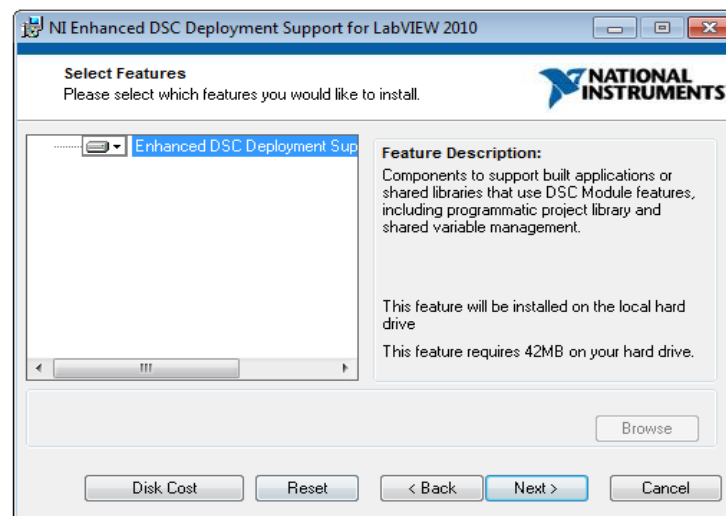

Figure 1-16 Select Features
3. A window as shown in Fig.1-16 will appear. Select the features that are to be included in Run-Time Engine, Click **Next»** Button to continue.